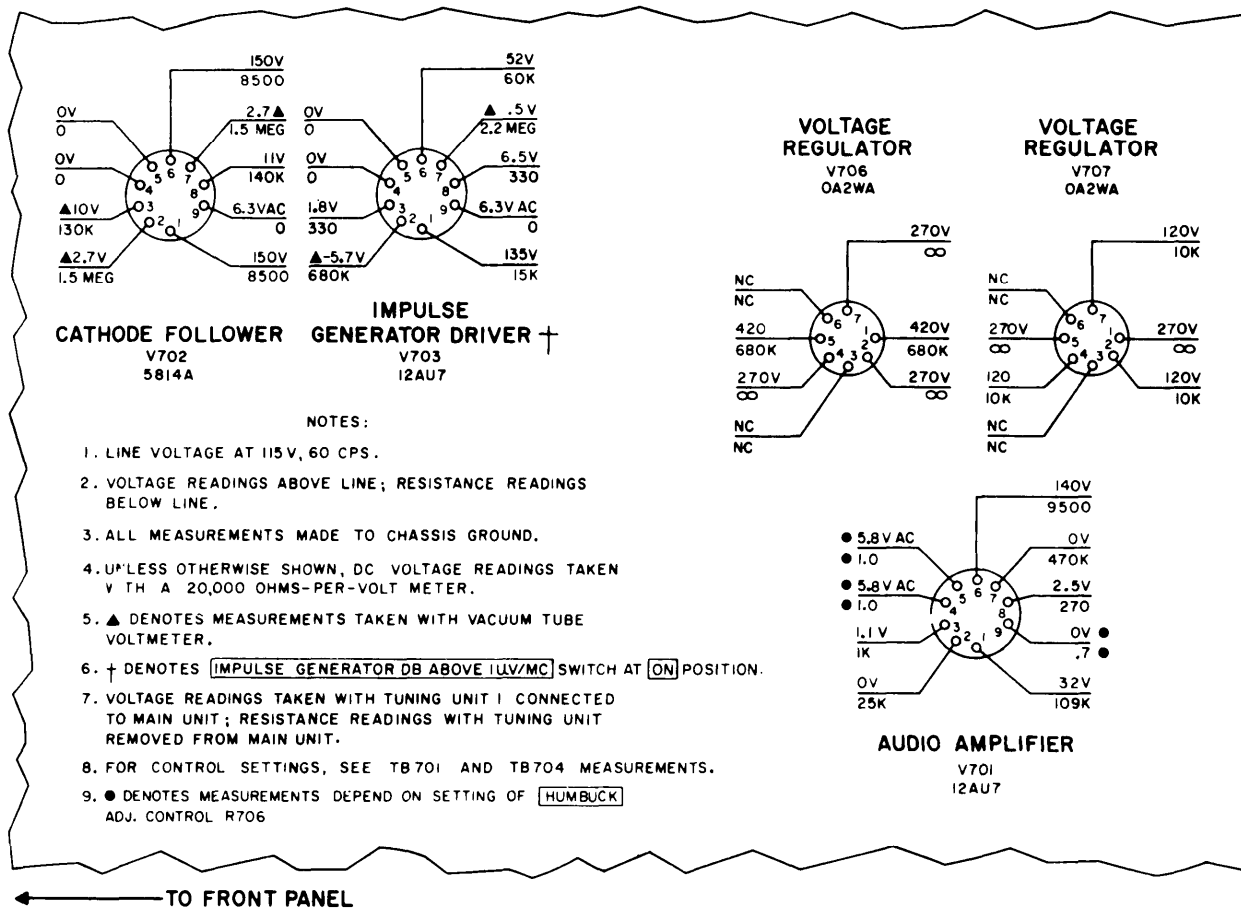

Figure 41. Tube socket voltage and resistance diagram, main unit chassis, bottom view.
(1) *Resistance measurements.* The use of resistance measurements to locate trouble will prevent further damage to the equipment if short circuits are present. To assist in the localization of such faults, troubleshooting data include the normal resistance values as measured at tube sockets and at key terminal points. The normal resistance values at any point in the main unit can be determined by referring to the resistance values shown in figures 41 through 45, or by the resistor and capacitor color codes (fig. 96 and 97). Before making any resistance measurements, turn off the power and remove the main unit dust cover by following the procedure described in paragraph 40b, item 12, of TM 11-6625-351-12. A convenient point for making overall resistance measurements of a tuning unit is at the multipin connector located at the rear of the tuning unit chassis. With a tuning unit removed from the main unit and placed on the workbench, this connector permits a checkout of the proper resistance value for the 20 terminals within the connector housing. If trouble is indicated by lack of correspondence between actual measurements taken at the multipin connector and the normal readings listed in paragraph 68, further localization of the trouble must be obtained by measuring resistances at the various tube sockets within the tuning unit. To gain access to the tuning unit tube sockets, remove the tuning unit dust cover as follows:
- (2) *Voltage measurements.* Most troubles either result from abnormal voltage or they produce abnormal voltages. Normal voltages at tube sockets and key terminal points in the main unit are shown in figures 41 and 43 through 45. A convenient point for measuring power supply voltages is at the feedthrough terminals which project from the filter box assembly, mounted on the exterior rear of the main unit (fig. 45). Compare the actual readings taken with the normal readings shown. Tube socket voltages checks for the electron tubes housed within each tuning unit can be made only by use of Cable Assembly, Special Purpose, Electrical Branched CX-6681/URM-85 (para 61e). In addition, the dust cover of the tuning unit must be removed ((1) above). Figure 46 illustrates a typical tuning unit operating outside of its tuning unit compartment and receiving proper ac and dc potentials from the receptacle mounted on the rear interior wall of the tuning unit compartment. With a malfunctioning tuning unit set up as shown in figure 46, compare the voltage readings taken with the normal readings shown in figures 47 through 50.
- (3) *Troubleshooting chart.* The trouble symptoms listed in the chart (para 67) will aid in localizing trouble.
- (4) *Intermittent troubles.* In all these tests, the possibility of intermittent troubles should not be overlooked. If present, this type of trouble often can be made to appear by tapping or jarring the equipment. Check the wiring and con-